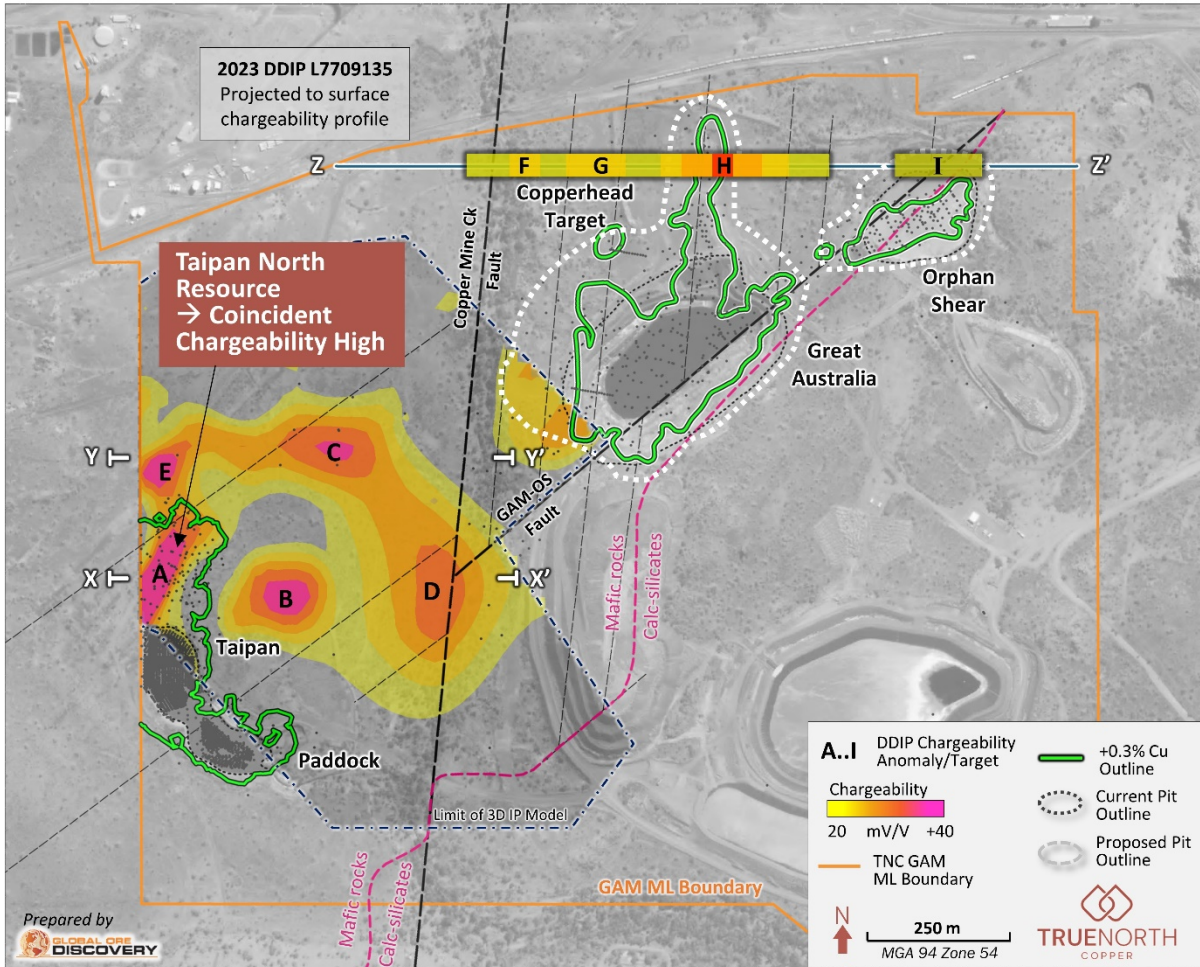

Figure 7: Projected to surface IP chargeability anomalies, and cross section locations in this release.
Four (4) additional chargeability anomalies of similar dimensions and magnitude were identified in the Greater Australian Target area that represent compelling drill (targets A to E) for further copper mineralisation (Figure 7).
The single 1.0km long, EW oriented IP line surveyed north of the GAM - Orphan Shear system has outlined another four (4) chargeability anomalies (Targets F to I), including two high priority drill targets at the new Copperhead prospect (Figure 7) below undrilled outcropping gossanous structures and zones of supergene copper mineralisation.
Target D is the highest priority drill target identified by the IP Survey (Figure 7, Figure 8). It is defined by a 320m by 150m x 250m +30mV/V chargeability anomaly centred only 65 m below the surface. Target D is localised at a highly permissive structural intersection defined by north-south trending Coppermine Creek Fault and the GAM-Orphan Shear trend, two regionally significant structures that control copper mineralisation elsewhere in the Cloncurry District. This chargeability anomaly is interpreted to remain open to depth and may represent a primary feeder structure to the GAM Complex Copper System.
Targets B, C and E (Figure 7, Figure 8) also represent untested/undertested high-priority chargeability anomalies within the GAM system for drill testing.